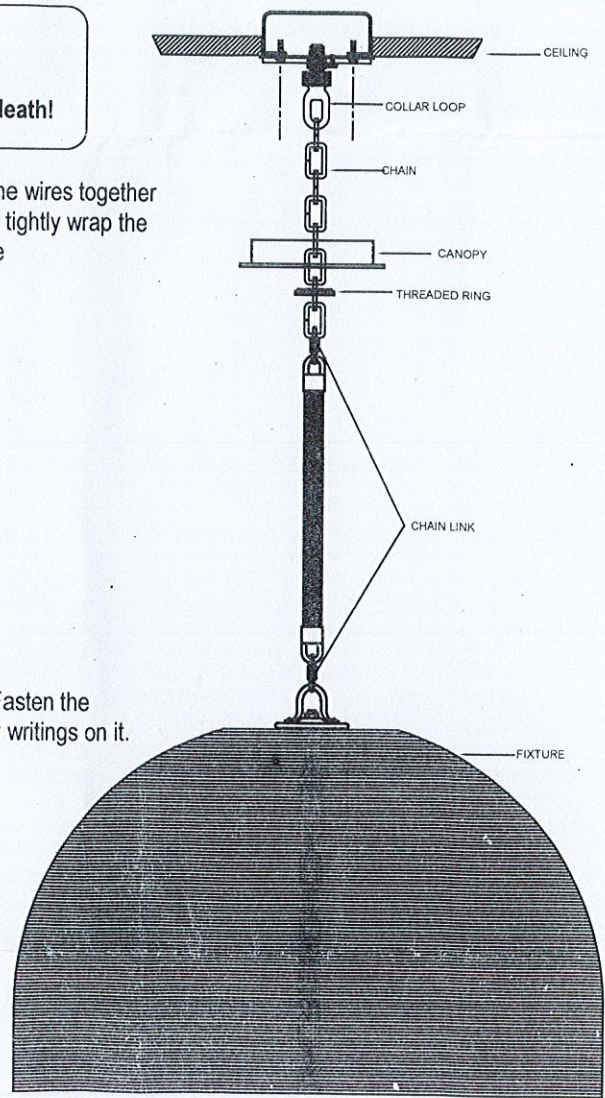

FIGURE-02
- Open the end links of the chain and attach the chain to the screw collar loop. Insert the lead wire to the stem then thread in the stem into the frame. Hang the fixture on the chain at the desired height. Remove the excess chain close all links. Unscrew the threaded ring from the screw collar loop. Allow the ring and canopy to slide down the chain to the top of the fixture. (See Figure-02)